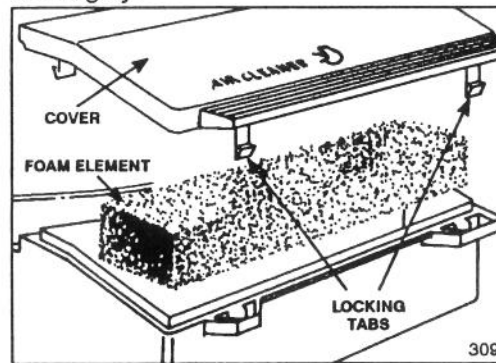

Figure 12
2. Push in locking tabs and lift off air cleaner cover. Clean cover thoroughly (Fig. 12).
3. If top of foam element is dirty, remove it from air cleaner body (Fig. 12). Clean thoroughly.